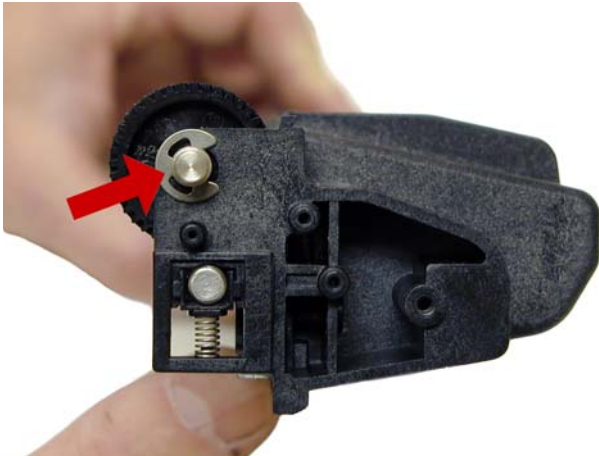

Figure 40
37) Install the E-ring. See **Figure 40**